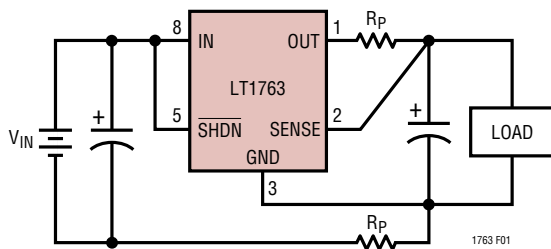

Figure 1. Kelvin Sense Connection
**SENSE (Pin 2/Pin 5):** Output Sense. For fixed voltage versions of the LT1763 (LT1763-1.5/LT1763-1.8/LT1763-2.5/LT1763-3/LT1763-3.3/LT1763-5), the SENSE pin is the input to the error amplifier. Optimum regulation will be obtained at the point where the SENSE pin is connected to the OUT pin of the regulator. In critical applications, small voltage drops are caused by the resistance ( $R_p$ ) of PC traces between the regulator and the load. These may be eliminated by connecting the SENSE pin to the output at the load as shown in Figure 1 (Kelvin Sense Connection).